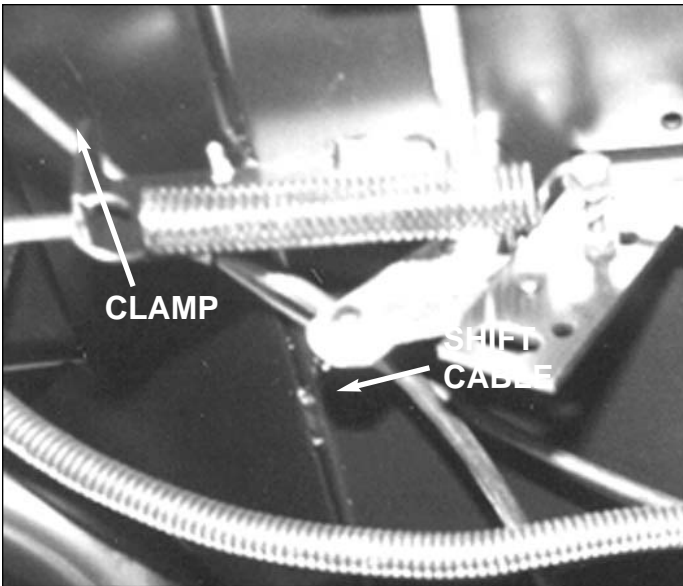

Figure 4 - Route Cable to Passenger Side, Frame Rail
4. The shift cable assembly, tension springs, and spring bracket can be removed from vehicle. Note routing of the cable over rear fork, and, also, the routing over main frame and upward to console shifter assembly. See Figure 4.